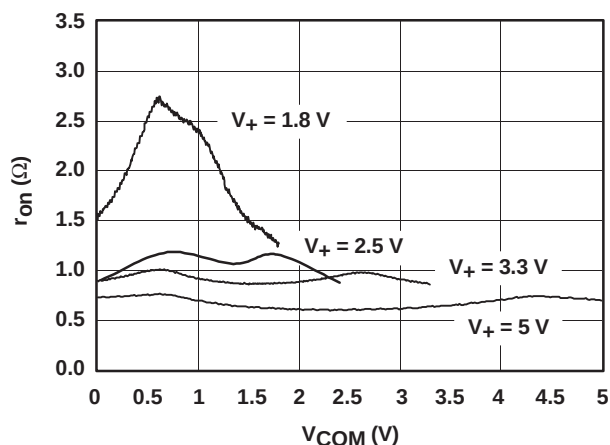

Figure 1. r_{on} vs V_{COM} ($T_A = 25^\circ\text{C}$)
Figure 1: Schematic diagram of the test setup for the 1T1C1R1C2 device. The device is shown as a square block with pins V_+ , COM, IN, NO, and GND. V_+ is connected to a positive supply. COM is connected to a load capacitor $C_L^{(1)}$ to ground. IN is connected to a logic input (2) through a resistor R_{GEN} . NO is connected to a positive supply V_{GEN} through a resistor R_{GEN} . The logic input (2) is shown as a square wave switching between V_{IH} and V_{IL} . The output V_{COM} is shown as a trapezoidal pulse. A box contains the test conditions: $V_{GEN} = 0$ to V_+ , $R_{GEN} = 0$, $C_L = 1 \text{ nF}$, $Q_C = C_L \times \Delta V_{COM}$, and $V_I = V_{IH}$ or V_{IL} .